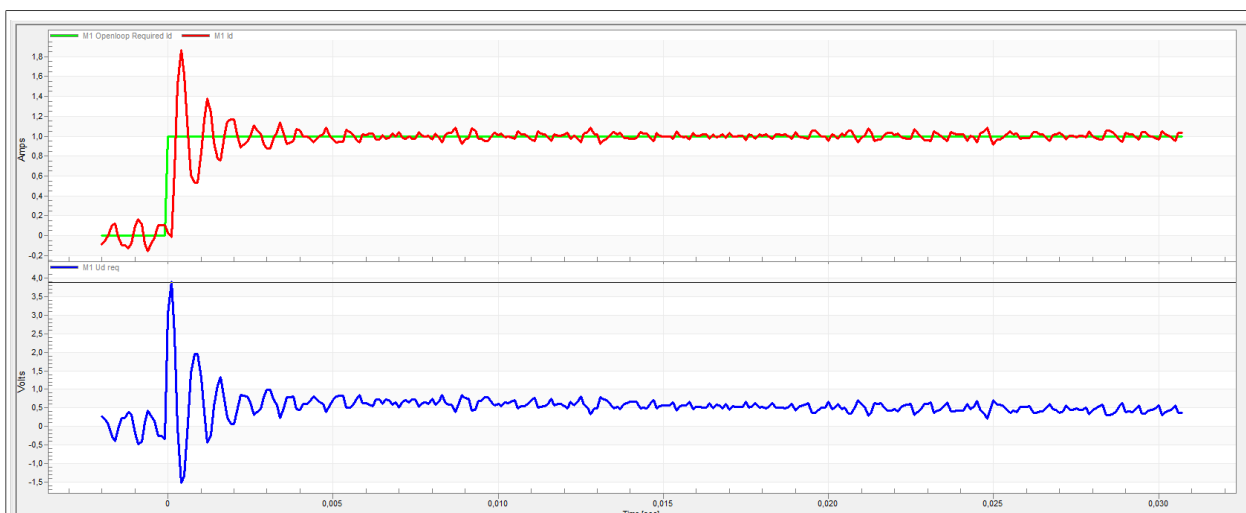

Figure 33. Fast step response of the Id current controller
- The loop bandwidth is high (700 Hz) and the response time of the Id current is very fast, but with oscillations and overshoot (Figure 33).